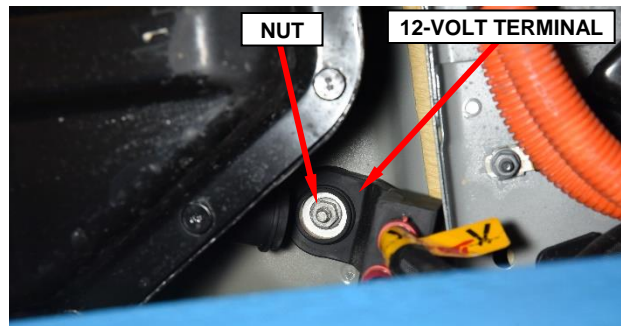

Figure 23 – 12-Volt Cable Terminal
7. Loosen the nut and remove the 12-volt terminal and nut assembly from the isolator post (Figure 23).
26. Install the 12-volt terminal and nut assembly to the isolator post then tighten the nut to 23 N·m (17 ft. lbs.) (Figure 23).